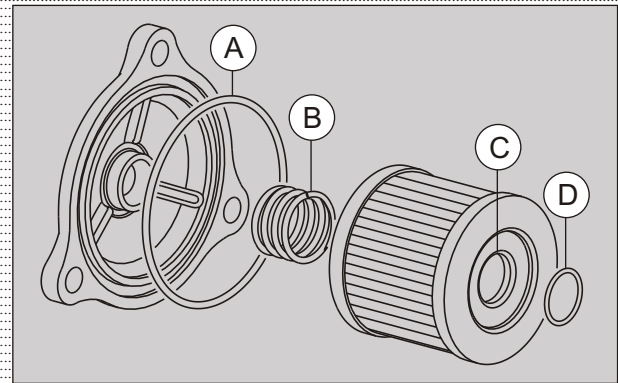

Fig. 2.39
While reassembling, remember to assemble the 'O' rings (A & D) and spring oil filter (B). (Fig. 2.39)
Locate seal end (C) of the filter towards crankshaft. (Fig. 2.39)